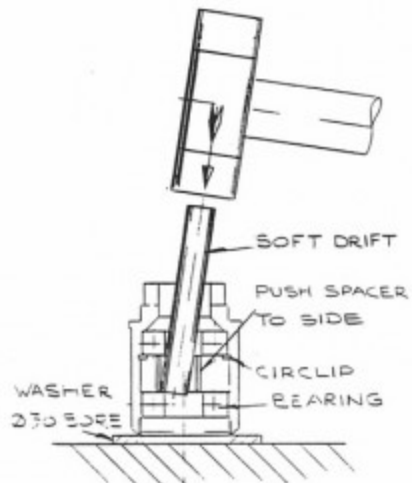

FIG 1
Remove rotor body and pawls as described previously in Maintenance Instructions. Place rotor body on a flat firm surface pawl carrier end up. Use a small screw-driver to push spacer (item 15) to one side. Using an aluminium drift, tap inside of bearing (item 16) working all round the bearing keeping it square so as not to jam it in the rotor (see fig 1) . When the bearing is flush with the end of the rotor, place rotor on a washer or ring with a 30mm hole in it and drive out the bearing. Remove spacer (item 15). This gives access to the circlip (item 14). Remove using long nose circlip pliers. Inner bearing (item 13) can then be removed using a 15 dia. drift. Make sure it doesn't jam on the second bearing location. Discard both bearings due to possible damage to the race ways. Thoroughly clean rotor body prior to fitting new bearings.